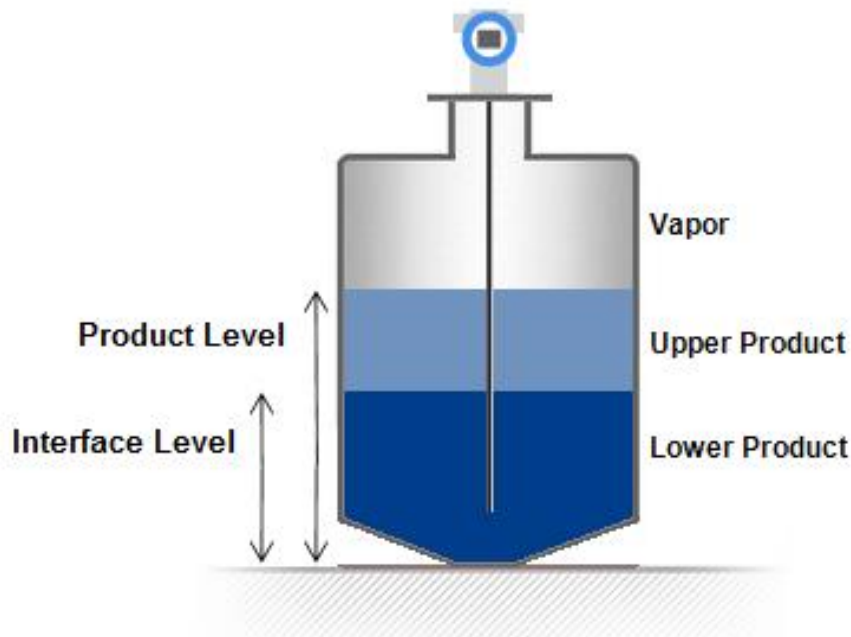

Figure 2-3: Interface measurement
The SLG 700 can measure levels of different materials in the same tank and can detect the echo from the boundary between Vapor and the Upper Product (UP), and between the Upper Product (UP) and the Lower Product (LP). This allows calculating the level for each material and the interface thickness as in Figure 2-3.